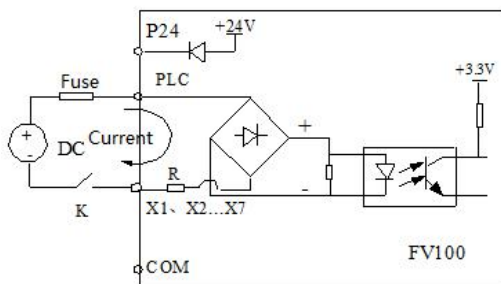

Fig.4-8 Wiring of external power supply
2) Use external power supply, (The power supply must satisfy the UL CLASS 2 standard and a 4A fuse must be added between the power supply and terminal), the wiring is as Fig.4-8 (Make sure the PLC and 24V terminal is disconnected)